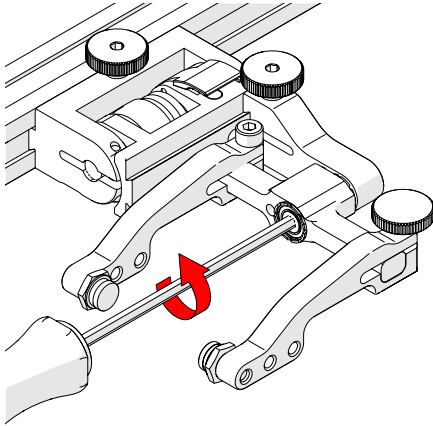

Fig. 130 - Unscrew yoke pivot screw
1. Unscrew the yoke from the swing arm (Fig. 130).